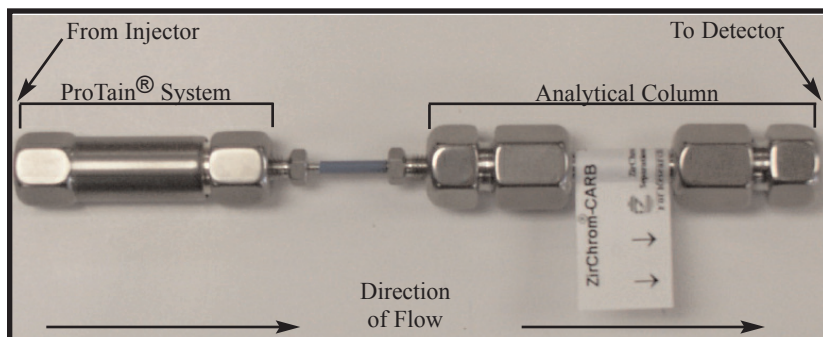

Figure 4: Final Installation
5. As shown in figure 4, connect and appropriately tighten tubing from the injector into the inlet of the ProTain® In-Line Protein Removal system (tubing should be 1/16" OD and compatible with analyte and mobile phase). Connect and appropriately tighten tubing from the detector to the outlet of the analytical column.